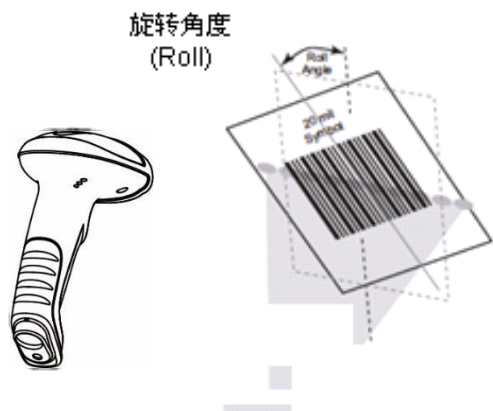

Fig. 1-13
- ✧ Roll : $\pm 30^\circ$, 0° Pitch and 0° Skew (Fig. 1-13)